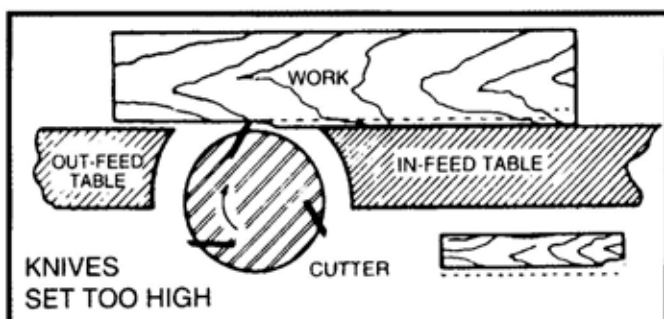

Fig. 45
9. If the knives are set too high, the work will be gouged at the end of the cut, as shown in Fig. 45.